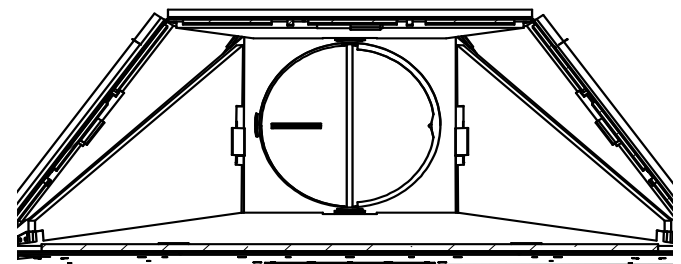

FIG.3
- E. Center and apply gasket to the edge of glass. Ensure gasket is a continuous loop around the perimeter of the replacement glass. **(FIG.3)**
- C.** Remove screws from lower side brackets and remove the side upper panels **(FIG.3)**
- D.** Slide top panel into smoke chamber and Install the 4 brackets removed in Step C. **(FIG.3)**